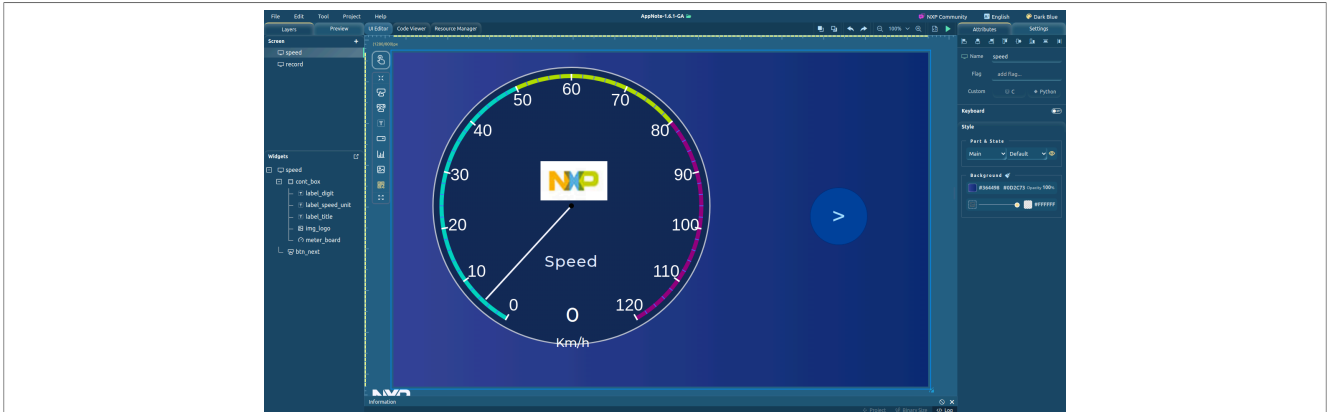

Figure 6. GUI Guider GUI
7. The main window must appear, as shown in Figure 6.